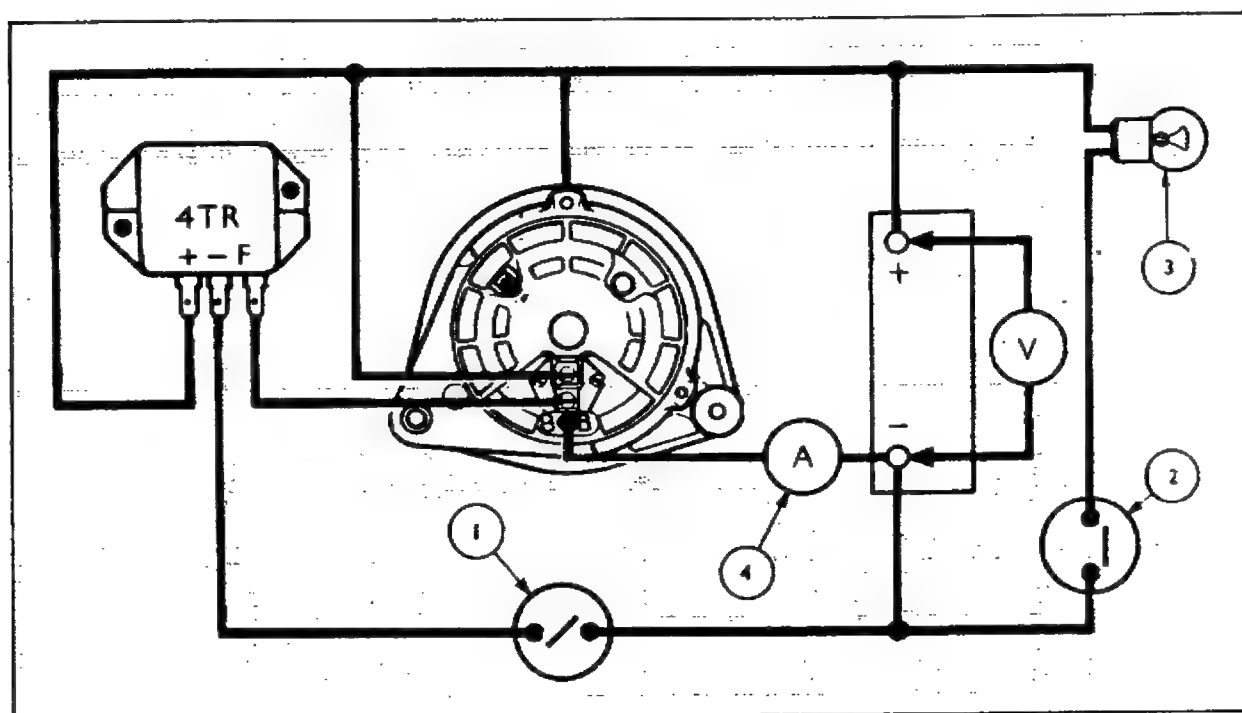

Fig. 32 – Control Unit Test Circuit
3. Switch on an electrical load of approximately 2 amps. The test circuit is shown in Fig. 32.